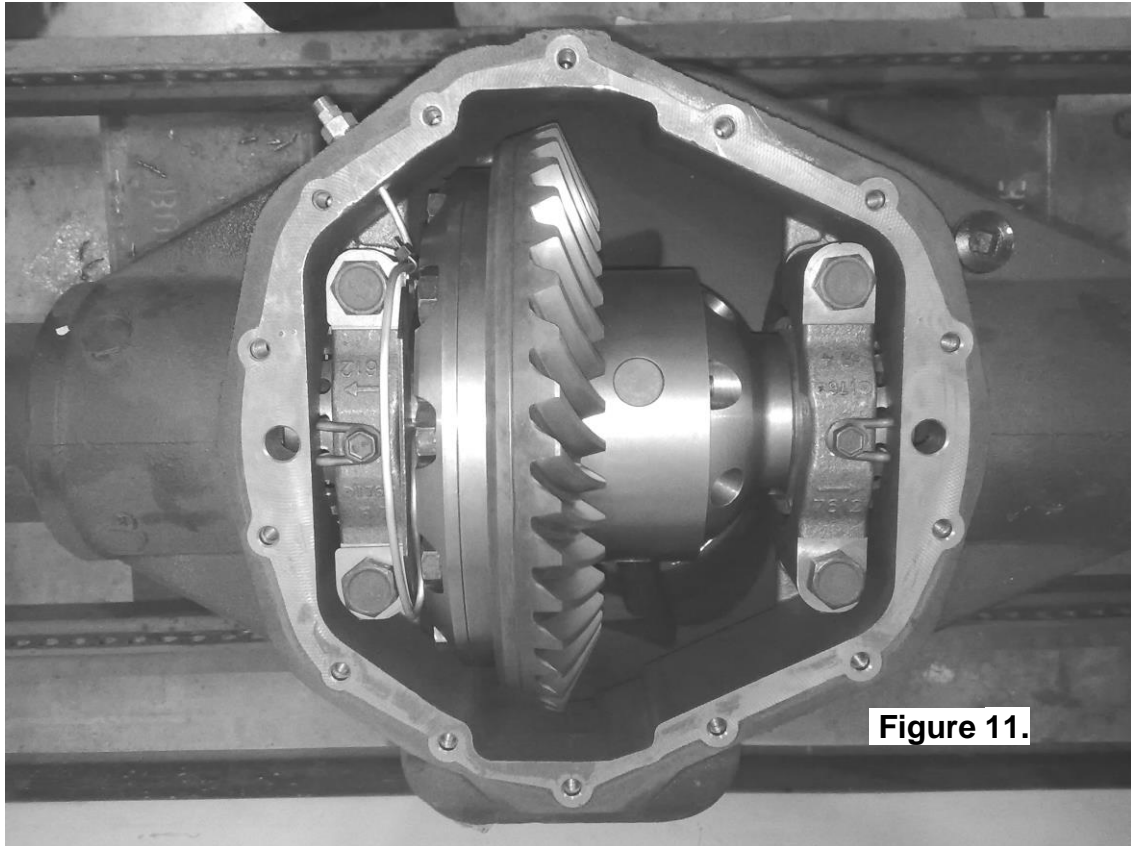

Figure 11.
- With the seal housing tube now firmly secured into the bulkhead fitting, bend the tube so that it closely follows the profile of the differential. Cable tie the seal housing tube to the seal housing retaining plate. (Fig.11. & 12.)